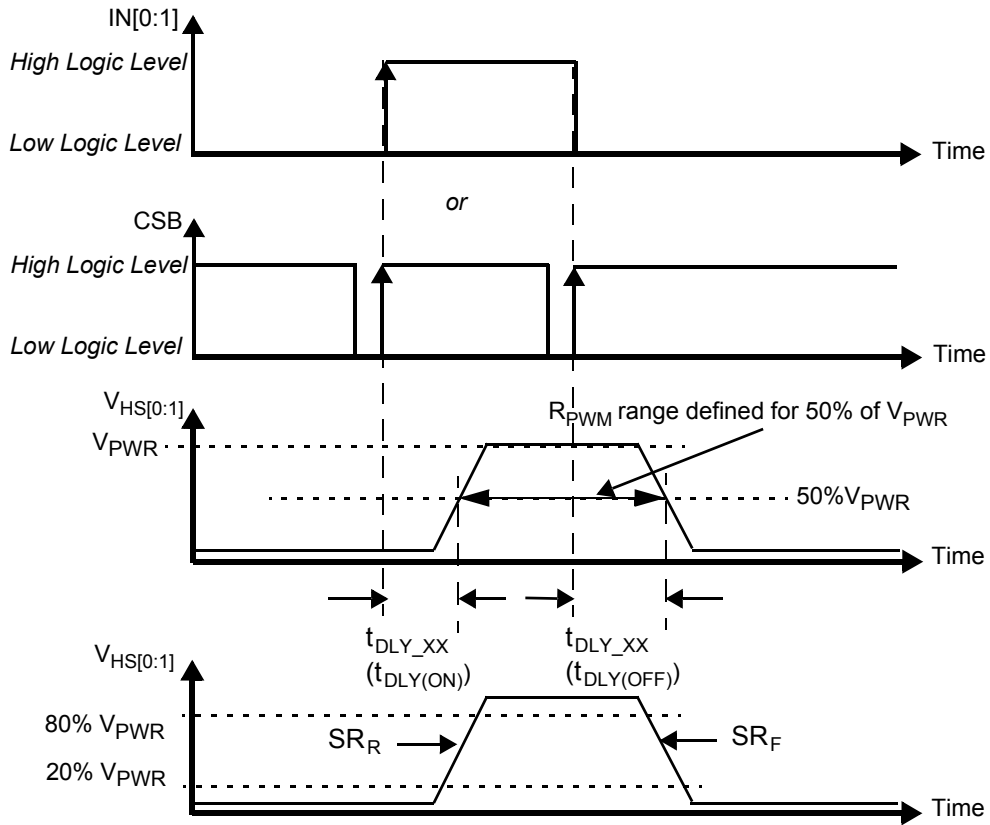
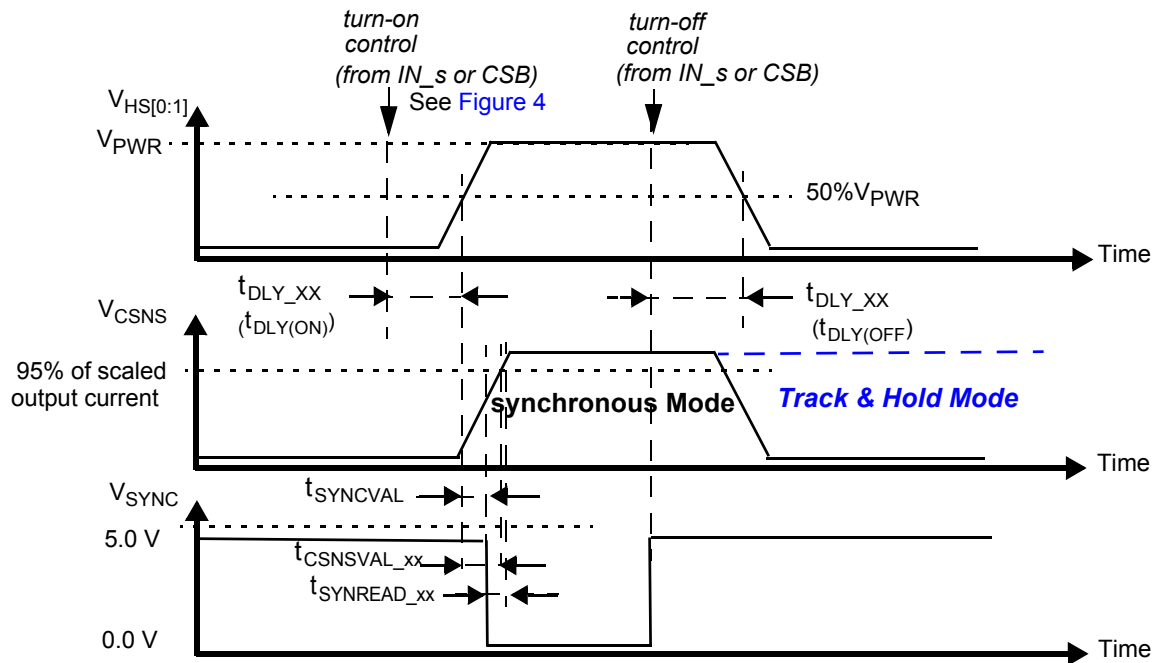

Figure 4. Output Voltage Slew Rate and Delay
Figure 9. Synchronous & Track-and-Hold Current Sensing Modes: Associated Delay & Settling Times
30. Rising and Falling edge slew rates specified for a 20% to 80% voltage variation on a 10.0 Ω resistive load (see Figure 4).
32. Time required to switch off the channel after detection of overtemperature (OT), overcurrent (OC), SC or UV error (time measured between start of the negative edge on the FSB pin and the falling edge on the output voltage until $V(\text{HS}[0:1]) = 50\%$ of V_{PWR}).
34. Settling time ($= t_{CSNSVAL_XX}$), SYNC output signal delay ($= t_{SYNCVAL_XX}$) and Read-out delay ($= t_{SYNREAD_XX}$) are defined for a stepped load current using a 10 Ω resistive load for $\text{CSNS_RATIO_s} = 0$. (see Figure 9 and Output Current Monitoring \(CSNS\)).
To synchronize current sensing with an external process, the SYNC signal can be connected to a digital input of an external MCU. SYNC is asserted logic low when the current sense signal is accurate and ready to be read. The current sense signal on the CSNS pin has the specified accuracy $t_{SYNCREAD_XX}$ seconds after the falling edge on the SYNC pin (Figure 9) and remains valid until a rising edge is generated. The rising edge that is generated by the SYNC pin at the turn-OFF instant (internal or external) may also be used to implement synchronization with the external MCU. Parameter $t_{SYNCCVAL_XX}$ is defined as the time between the instant at the middle of the output-voltage rising edge ($HS[0:1] = 50\%$ of V_{PWR}), and the instant at which the voltage on the SYNC-pin drops below 0.4 V (V_{SOL}). The SYNC pins of different devices can be connected together to save micro-controller input channels. However, in this configuration, the CSNS function of only one device should be active at a time. Otherwise, the MCU does not determine the origin of the SYNC signal. The SYNC pin is open drain and requires an external pull-up resistor to V_{DD} .